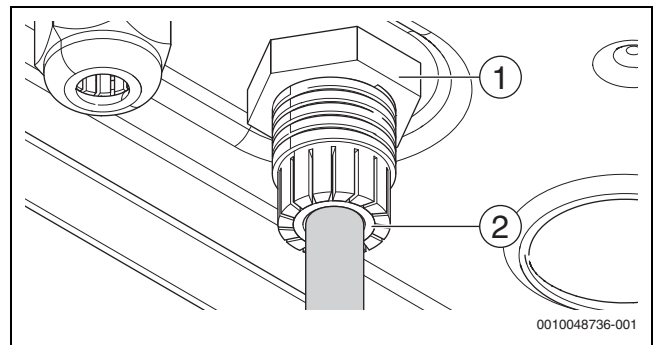

Fig. 53 Seal into the body
- ▶ Detach sealing nut (→ Figure 53, [1]).
- ▶ Remove sealing grommet (→ Figure 53, [2]).
- ▶ Re-attach the sealing nut (→ Figure 53, [2]).